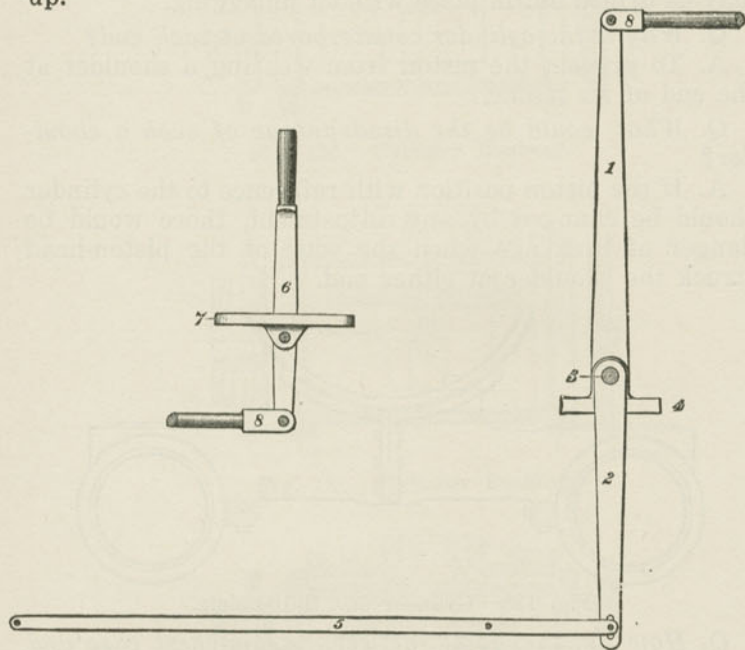

Fig. 134. Cylinder-cock Work.
A. By cocks at each cylinder end, controlled from the cab, and by which the cylinders may be bled from time to time if the engines work water or after starting. (See Figs. 134 and 135.)